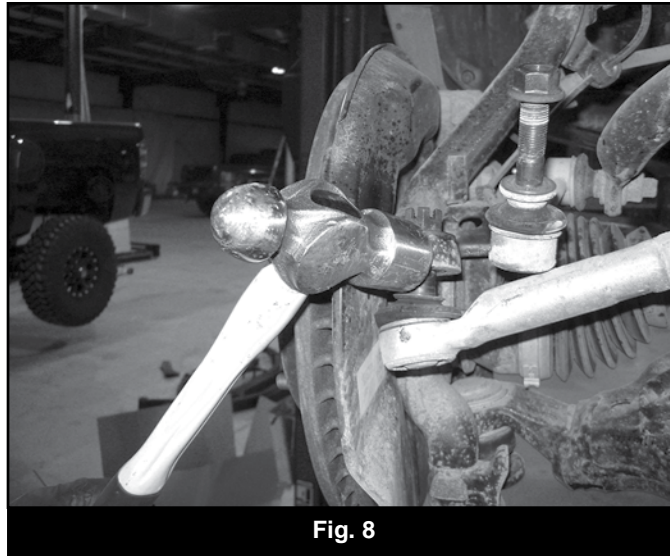

Fig. 8
11. Remove the cotter pins on the upper balljoint and tie rod end. Remove nut, then loosely reinstall several turns by hand. Dislodge the taper by striking the side of the knuckle with a hammer as shown. (Fig 8)